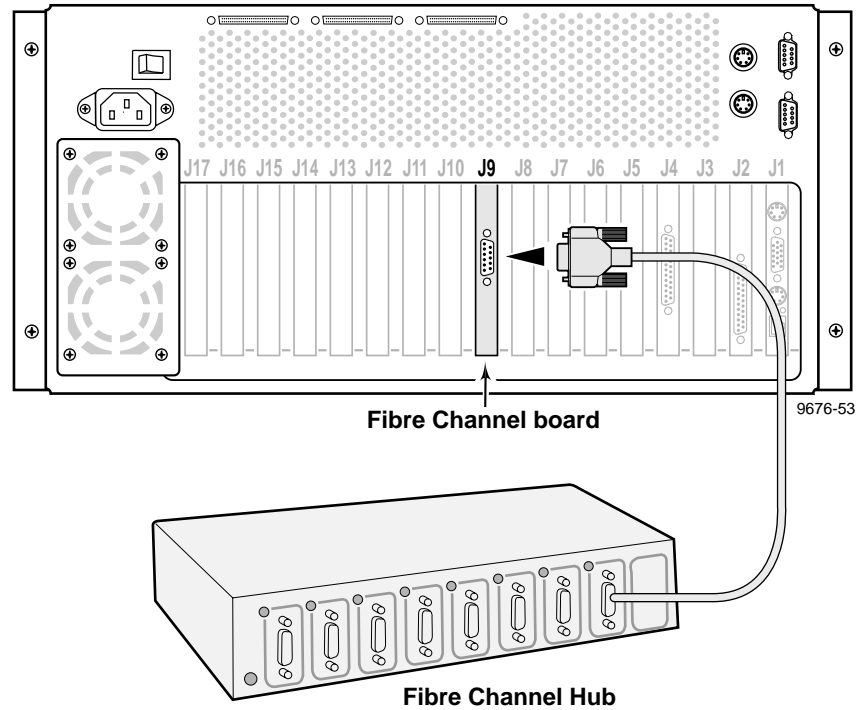

Figure 4-6. Fibre Channel Board and Hub Connection
2. Connect the Fibre Channel cable from the board to the Fibre Channel hub (Figure 4-6).